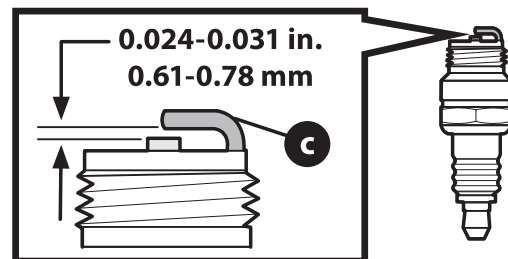

Figure 14
3. Measure the plug gap with a feeler gauge. Correct as necessary by bending side electrode (c) (Figure 14). The gap should be set to 0.024 - 0.031 in.